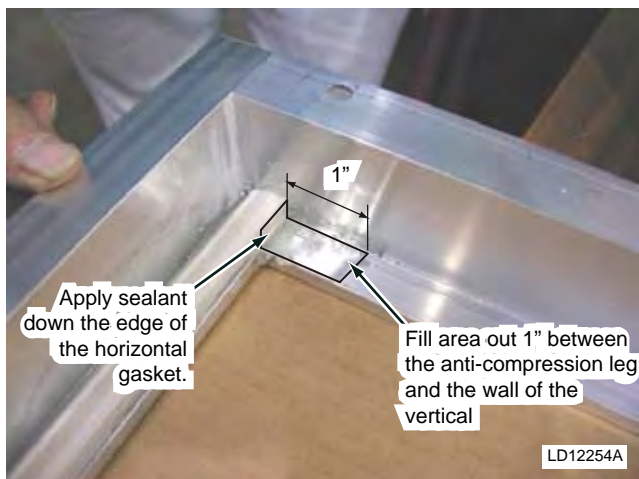

FIG. 5-51 – APPLY SEALANT FOR FIRST VERTICAL GASKET
12. Apply sealant down the edge of the horizontal gasket and fill the area out 1" between the anti-compression leg and the wall of the vertical (*see Fig. 5-51*).
- Apply sealant down the edge of the horizontal gasket and fill the area out 1" between the anti-compression leg and the wall of the vertical (see Fig. 5-51).